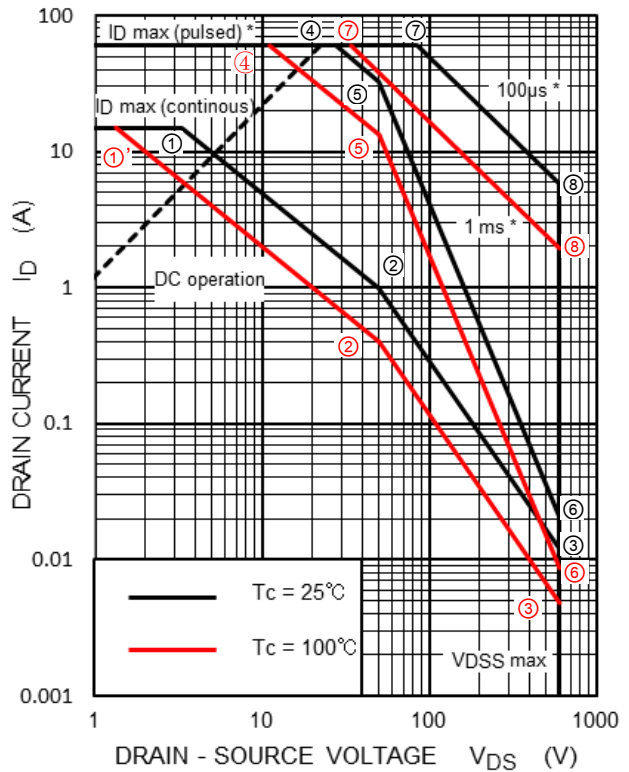

Figure 3.2 Temperature derating of the safe operating area
In Figure 3.2, ① and ② are in the area bound by the thermal limitation. ① and ② lie on the iso-power line of  $P_D(\max) = 50 \text{ W}$  ( $V_{DS} \times I_D = 50 \text{ W}$ ). At  $T_c = 100^\circ\text{C}$ , The power dissipation is derated to a 20-W iso-power line derived from Figure 3.1. ①' and ②' can be calculated using